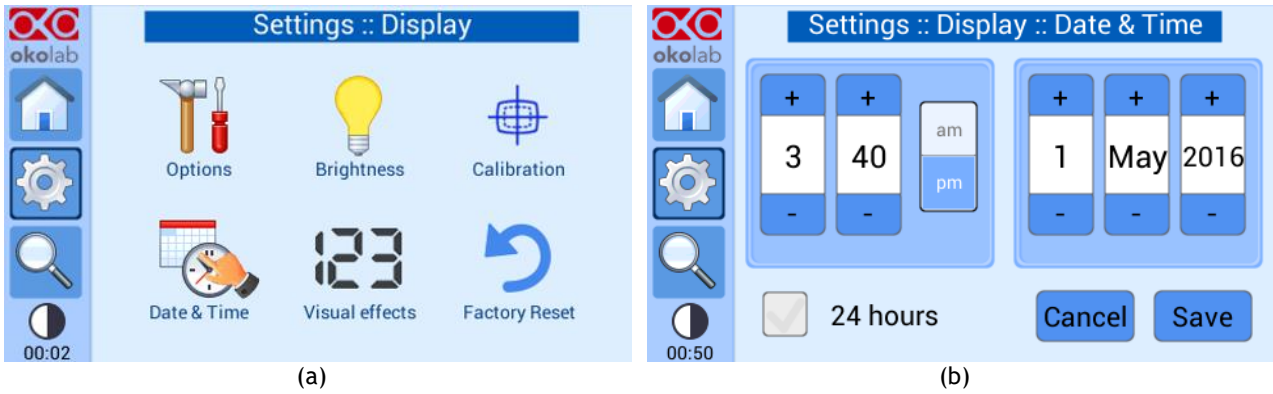

Figure 25. Select Date&Time configuration.
1. Press the *Date & Time* icon , see Figure 25(a)
2. Set the values, as shown in Figure 25(b)